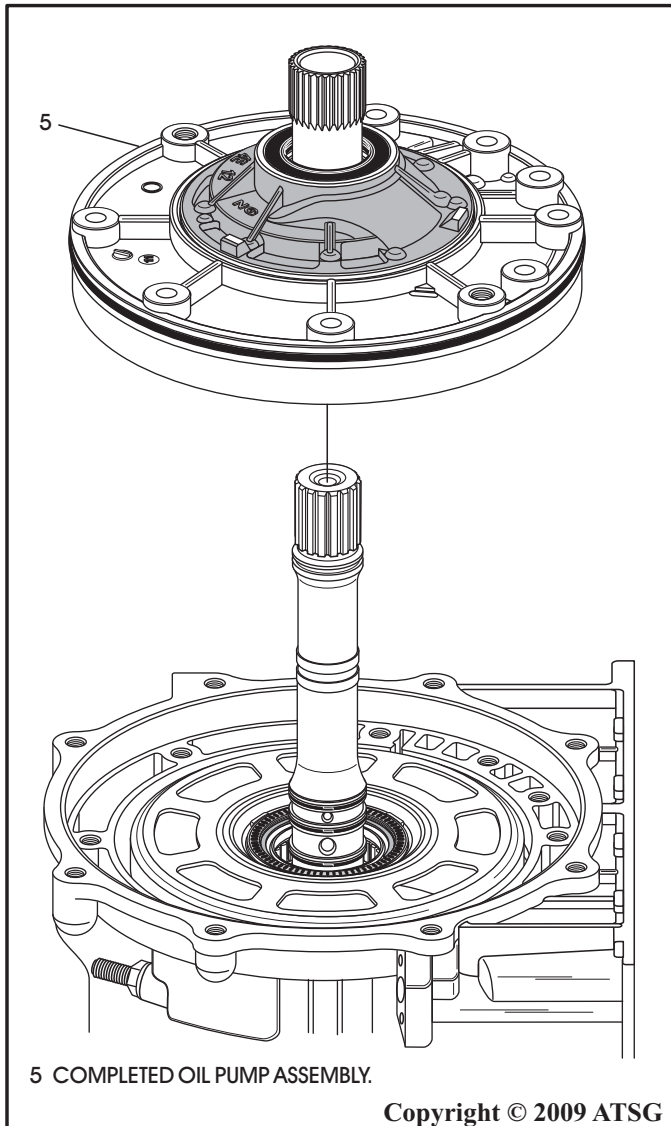

Figure 228
80. Lube the oil pump to case "O" ring and case bore with a small amount of Trans-Jel®, and install oil pump, as shown in Figure 228.